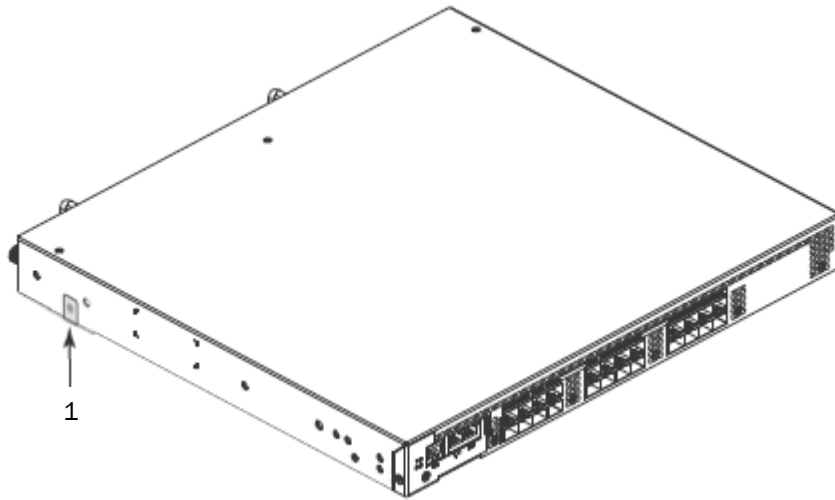
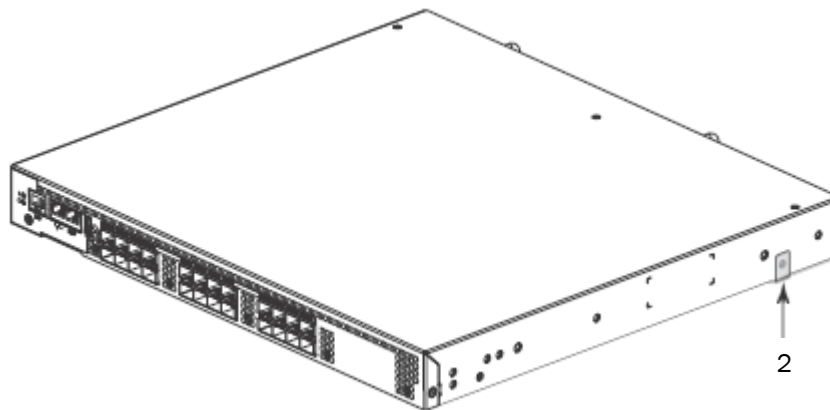

Figure 11 VDX 6720-16 and VDX 6720-24 left side seal location
Figure 12 VDX 6720-16 and VDX 6720-24 right side seal location
Two (2) tamper evident seals are required to complete the physical security requirements for the VDX 6720-16 and VDX 6720-24. See Figure 11 and Figure 12 for details on how to position each seal.